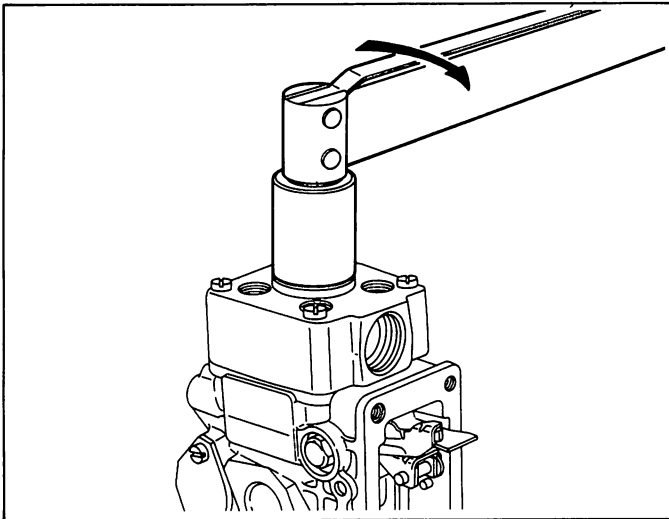

Fig. 75 Tightening the plug
12. Fit the O-ring on the new plug (130) and screw the plug into the distributor head assembly. Tighten it to the specified torque using a socket wrench (157914-2500). (Fig. 75)